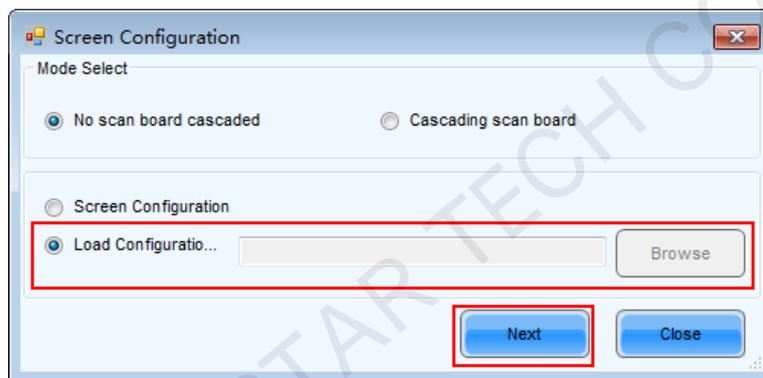

Fig. 7-1 Select Screen configuration Mode
1) Select " **Screen Configuration**" option in the Fig.7-1, and click " **Next**" , enter **Scan Board**
Switch to "Screen Config" page in Fig. 7-1, interface of No scan board cascaded mode as shown below: